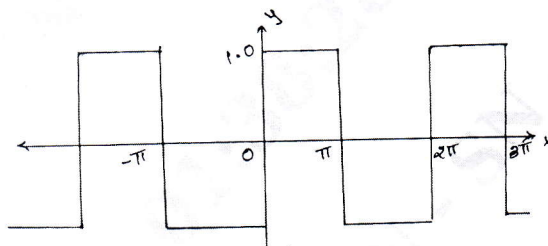

Fig.Q2(b)
- b. Develop the Fourier series for the curve shown in Fig.Q2(b).